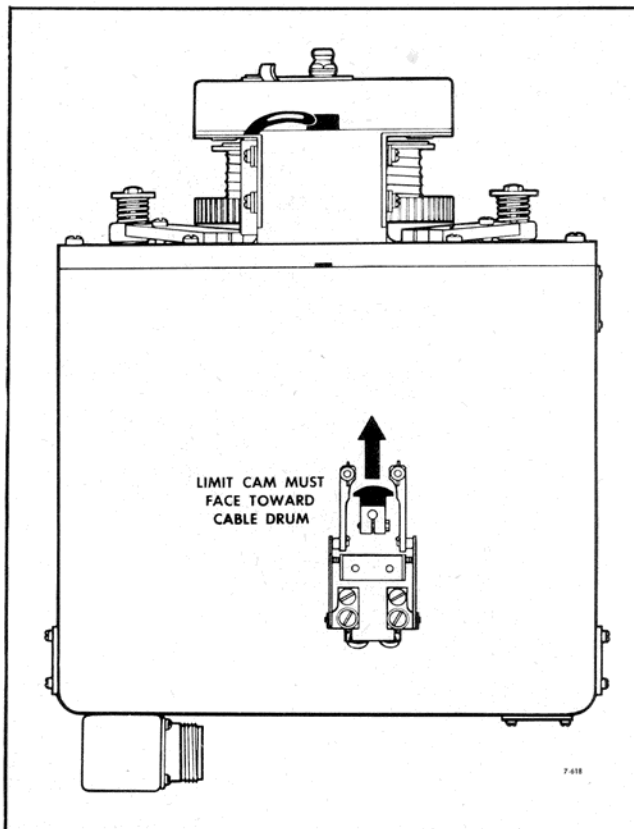

Figure 274—Limit Cam Must Face Toward Cable Drum
c. Make sure limit cam faces toward the drum end of the servo unit, as in figure 274, when the controls are centered for normal flight.